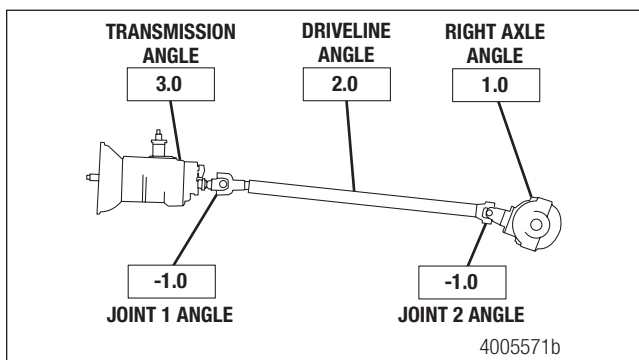

Figure 14.33
- Measure and record the side view angles. Refer to the procedure in this section. Figure 14.33 is shown as a reference.